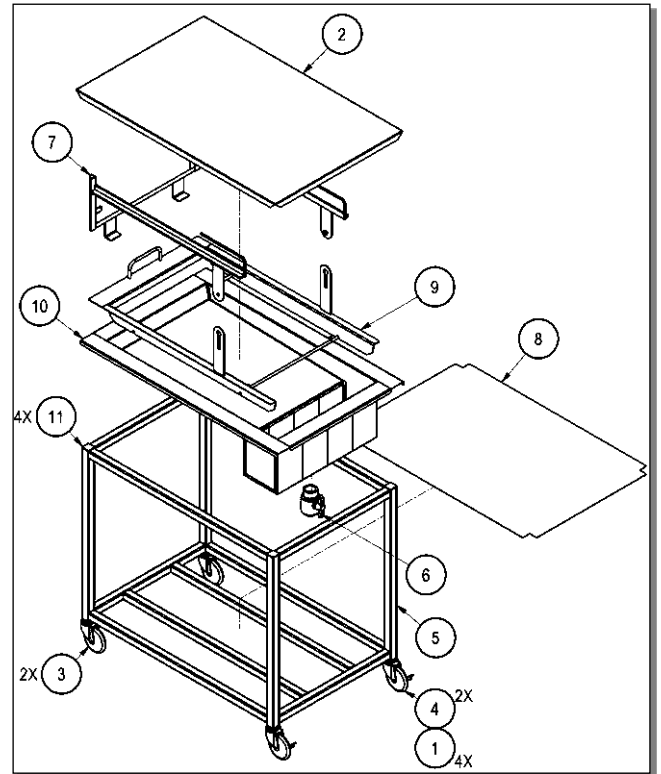

Figure 1, Glazer Assembly
1. PLACE the **Lower Shelf (8)** onto the bottom of the **Frame (5)**.
2. INSERT the **Glazer Kettle (10)** onto the **Frame (5)**. (See Figure 1.)
3. PLACE the **Screen Support (9)** onto the **Kettle (10)**.
4. INSERT the **Drain Valve (6)** onto the drain under the **Glaze Kettle (10)**.
Note: The optional **Glaze Kettle Cover** (2) can be installed onto the kettle after the **Upper Frame** and **Screen Support** are removed. (See Figure 1.)